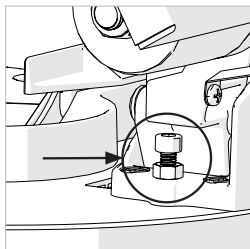

Fig. 31
- Loosen slightly the 0° Bevel Stop Adjustment Screw locknut. **(Fig. 31)**